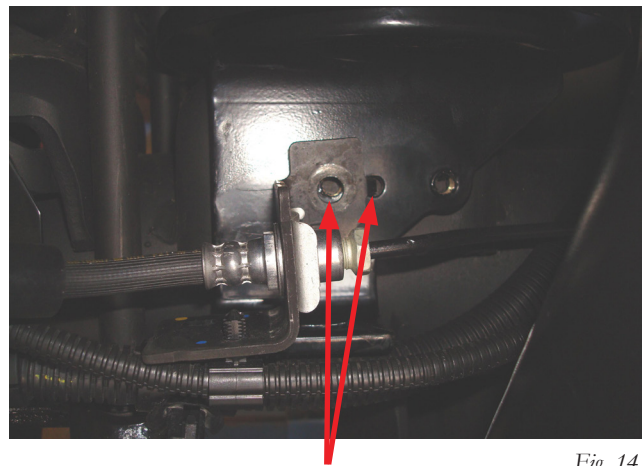

Fig. 14
1. With the suspension at full extension, set the driver's (left-hand) and passenger's (right-hand) side assemblies over the axle jounce bumper strike plates making sure the fitting is pointing to the inside of the frame. Push the lower bracket down flush to the strike plate and by moving the air spring assembly in and out, align the lower bracket until the tab and the hole on the brake line/ABS bracket aligns with the holes in the lower bracket (Fig. 14).